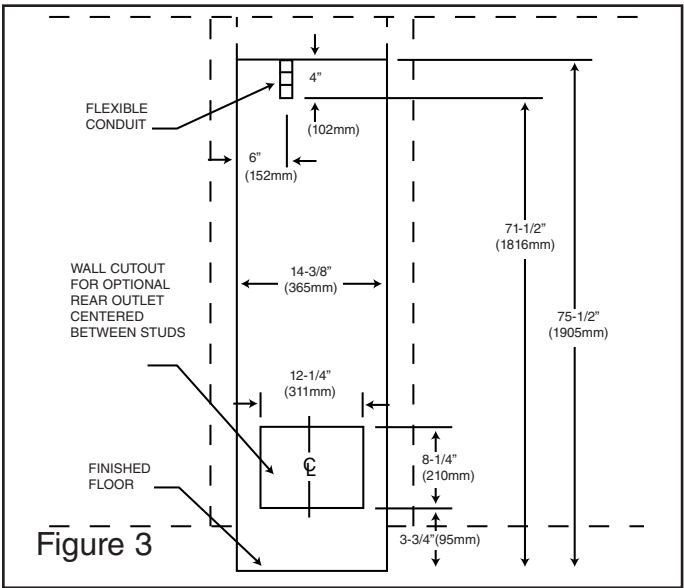

Figure 3
Refer to Figure 3. Lay out and cut the required opening in wall.
3. Install conduit so that it extends 4 inches (102 mm) below the top of the furnace wall opening. One (1) inch (25 mm) of conduit should extend inside the furnace cabinet (See Fig. 3).
If you are using the optional rear outlet (CFWFRO), cut the 8-1/4 (210 mm) inch by 12-1/4 inch (311 mm) opening ONLY as shown in Fig. 3, page 4. Refer to Optional Rear Outlet Installation on page 7 before proceeding.
5. Route the flexible conduit to the 1 inch (25 mm) hole in the wallboard and allow 1 inch (25 mm) to extend below the furnace top (71-1/2 inches [1816 mm] from the finished floor). See Fig. 3, page 4.
1. Cut 8-1/4 inch (210 mm) x 12-1/4 (311 mm) inch hole in wall as shown in Fig. 3, page 4.
1. Cut 8-1/4 inch (210 mm) x 12-1/4 inch (311 mm) hole in wall as shown in Fig. 3, page 4.